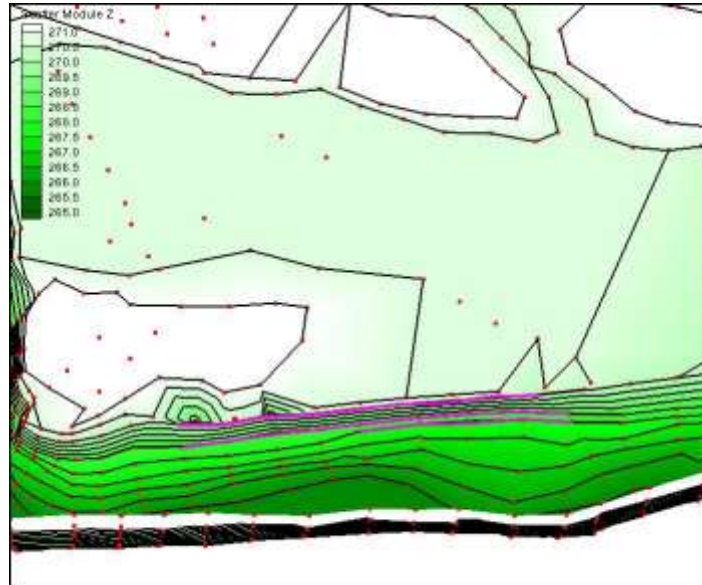

Figure 10 TIN with breaklines forced
- Switch to the **Select Breakline**  tool, select each breakline and right click. From the *Breaklines* drop-down menu, select **Force Breakline**. The screen should now look like Figure 10.